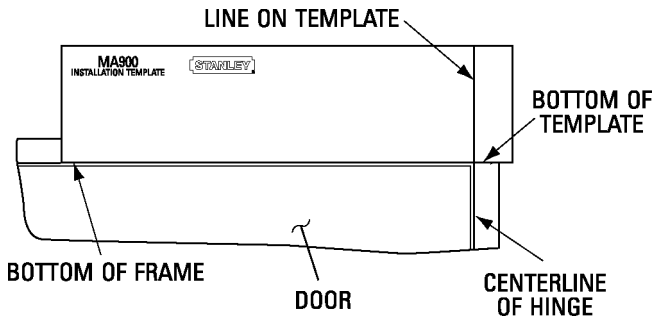

Fig. 8
2. Position the template (see Fig. 8).